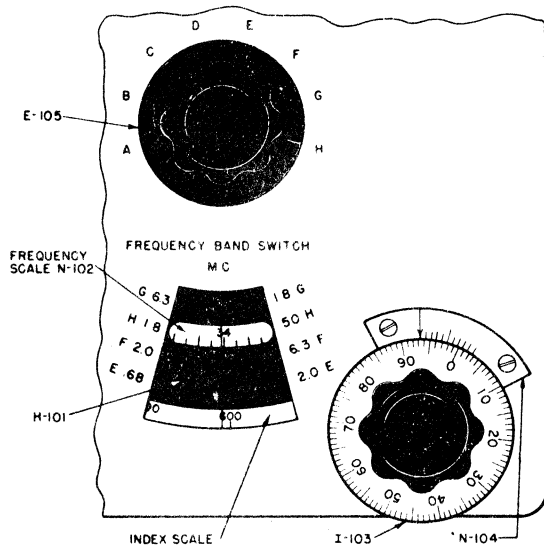

Figure 4-2. Diagram Showing Vernier Reading of Frequency Scale.
(See figure 4-2).
(1) Assume that it is necessary to obtain a signal at 34.3 mc $\pm .05\%$.
(2) Select the zero beat closest to 34 mc. This might indicate a reading slightly less than "600" on the index scale. From figure 4-2, we see that the arrow on N-104 points to somewhere between "93" and "94". We also see from this figure that the third line on N-104 lines up with a marker on I-103. The numerical setting at this crystal check point is therefore "593.3".
(3) Rotate TUNING dial I-103 counterclockwise, passing the 34 mc marking, until the next zero beat is heard. This will appear 1 mc away from the first check point. Let us assume that this will occur at a vernier reading of 614.5. This represents a vernier difference of 21.2 for a 1 mc spread. A setting of 34.3 therefore represents an advance of $.3 \times 21.2$ or 6.36 from the "593.3" setting.
(4) Set the vernier reading to $599.7 = (593.3 + 6.36)$. This represents a frequency of 34.3 mc $\pm .05\%$.